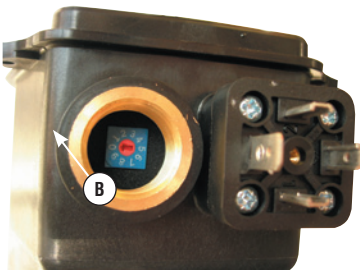

FIG 11
**Note:** The pump is available with 10 settings with delay timer. The delay is adjusted via the rotary switch (B) in Fig 11. The motor, for each operation will run for 1 min 8 seconds.